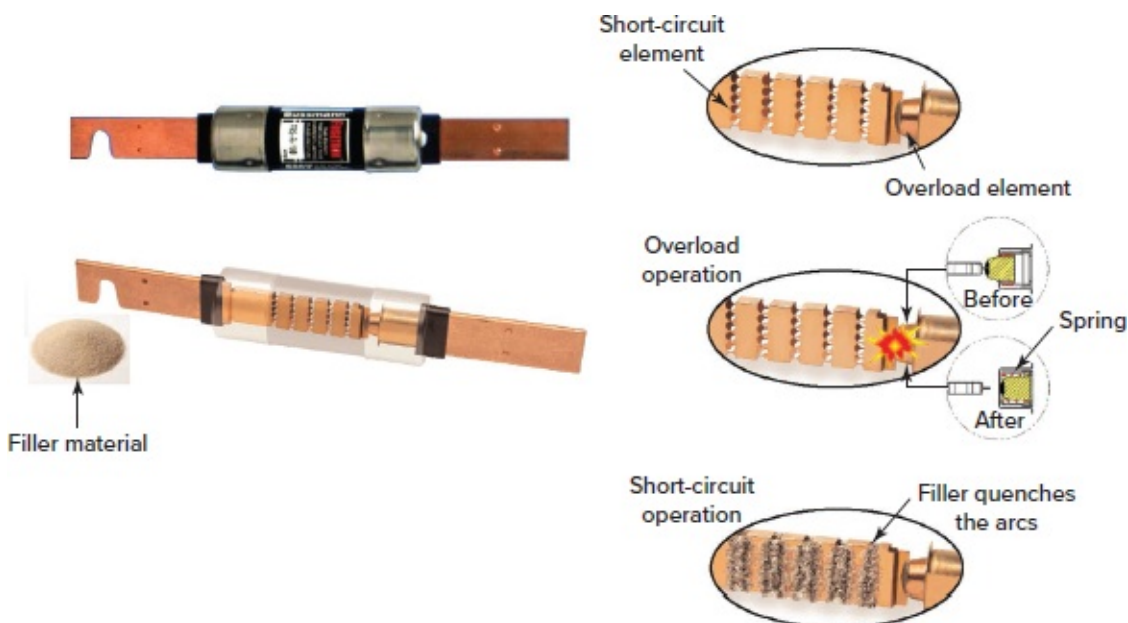

Figure 6-47 Dual-element fuse.
Dual-Element Fuses Dual-element (time-delay) fuses, when properly sized, provide both overload and fault protection. This type of fuse contains dual fuse elements with both thermal and instantaneous trip features that allow the high motor starting current to flow for a short time without blowing the fuse. Figure 6-47 shows the construction of a dual-element fuse. The operation of a dual-element fuse can be summarized as follows:
- Under sustained overload conditions, the trigger spring fractures the calibrated fusing alloy of the overload element, releasing the connector. The insets in Figure 6-47 represent a model of the overload element before and after.